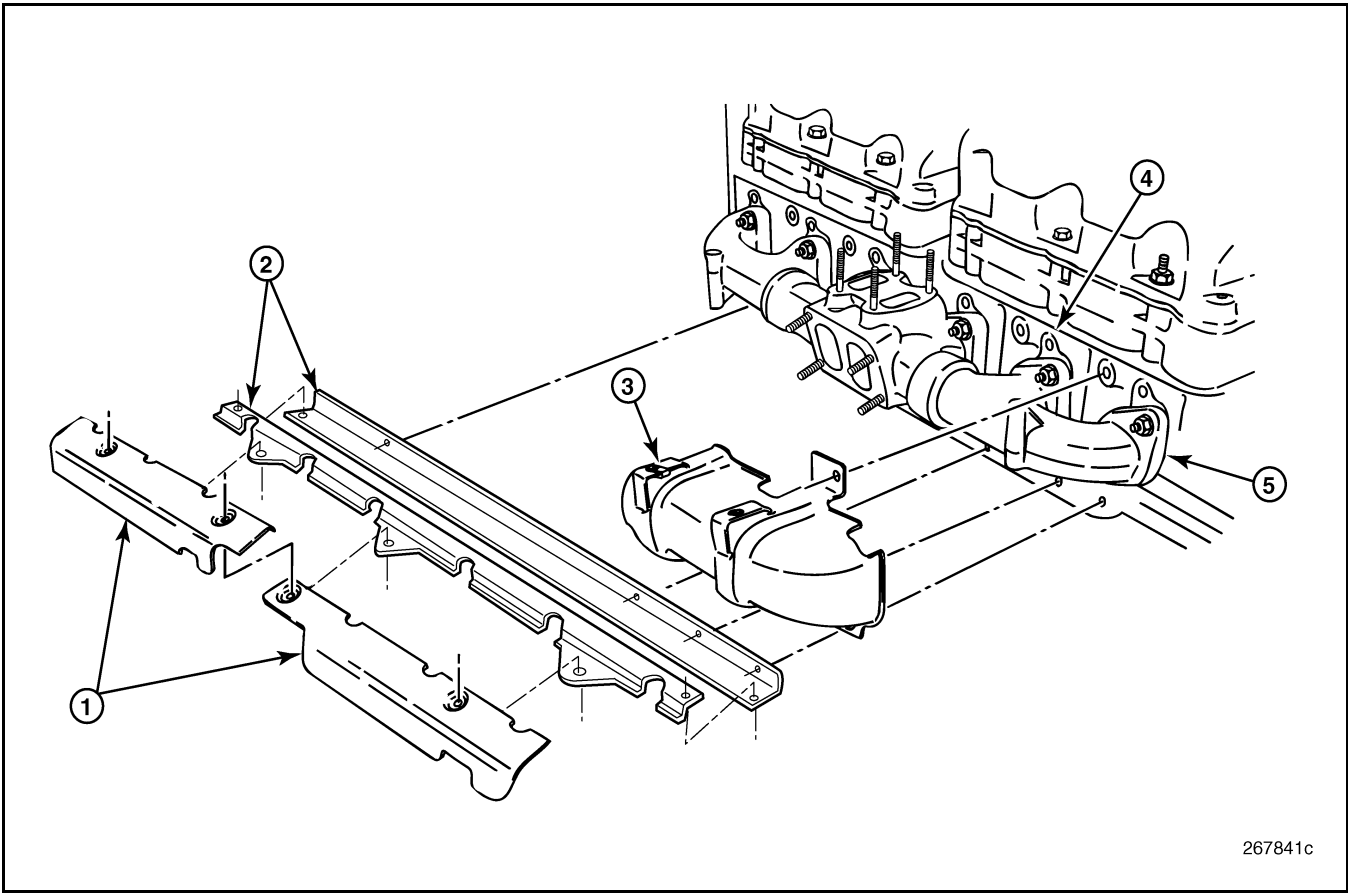

Figure 401 — EGR and EUP Heat Shield Installation
1. Place the EGR heat shield in position over the front section of the exhaust manifold (Figure 401). Install the top capscrew attaching the shield to the cylinder block and tighten it to specification. **DO NOT** install the bottom capscrews at this time.